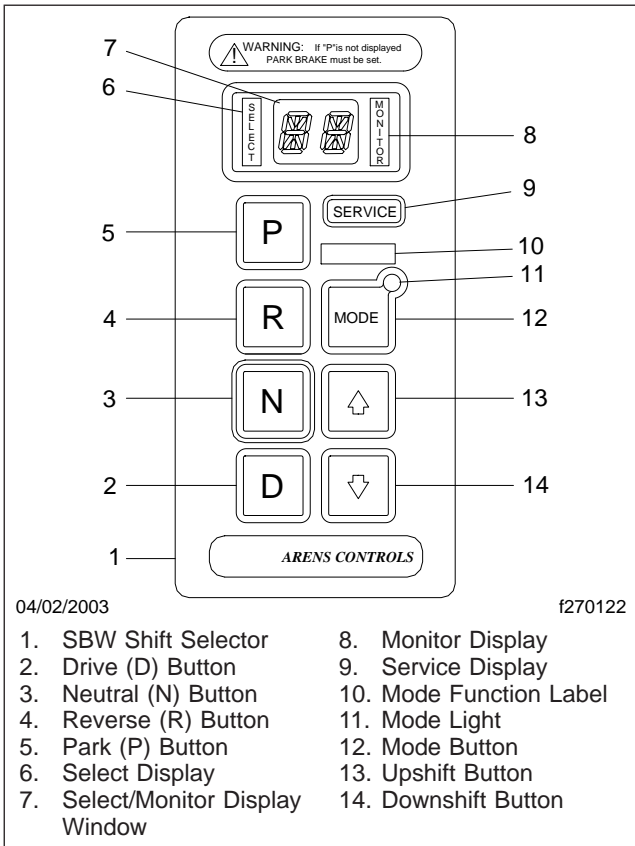

Fig. 7.2, SBW Shift Selector (2100/2500 series)
The 2100/2500 series transmissions have a park pawl and the SBW selector has a Park (P) position. See Fig. 7.2.